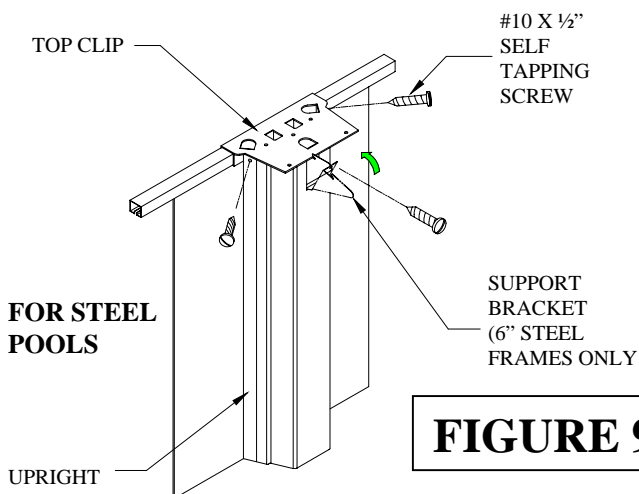
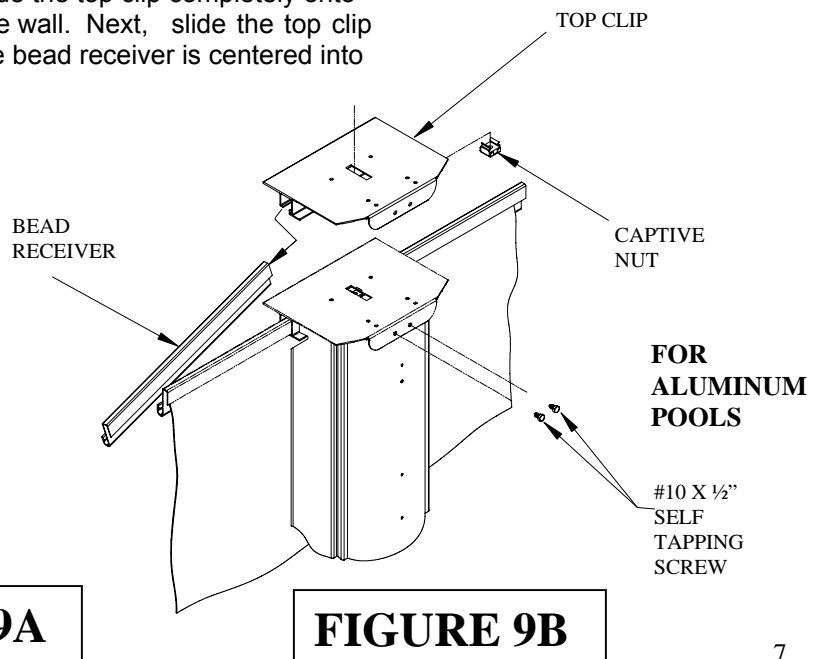

FIGURE 9A
FIGURE 9B
Step 10: See Figure 9A and 9B. For aluminum pools only, install captive nuts on top clips. If you have a steel pool attach the top clips as shown. Note, the support bracket is only used on 6" steel frames. Lift up one end of the bead receiver and slide the top clip onto it as shown in Figure 9B. Slide the top clip completely onto the first bead receiver. Then push it down onto the wall. Next, slide the top clip over the adjacent bead receiver until the ends of the bead receiver is centered into the top clip